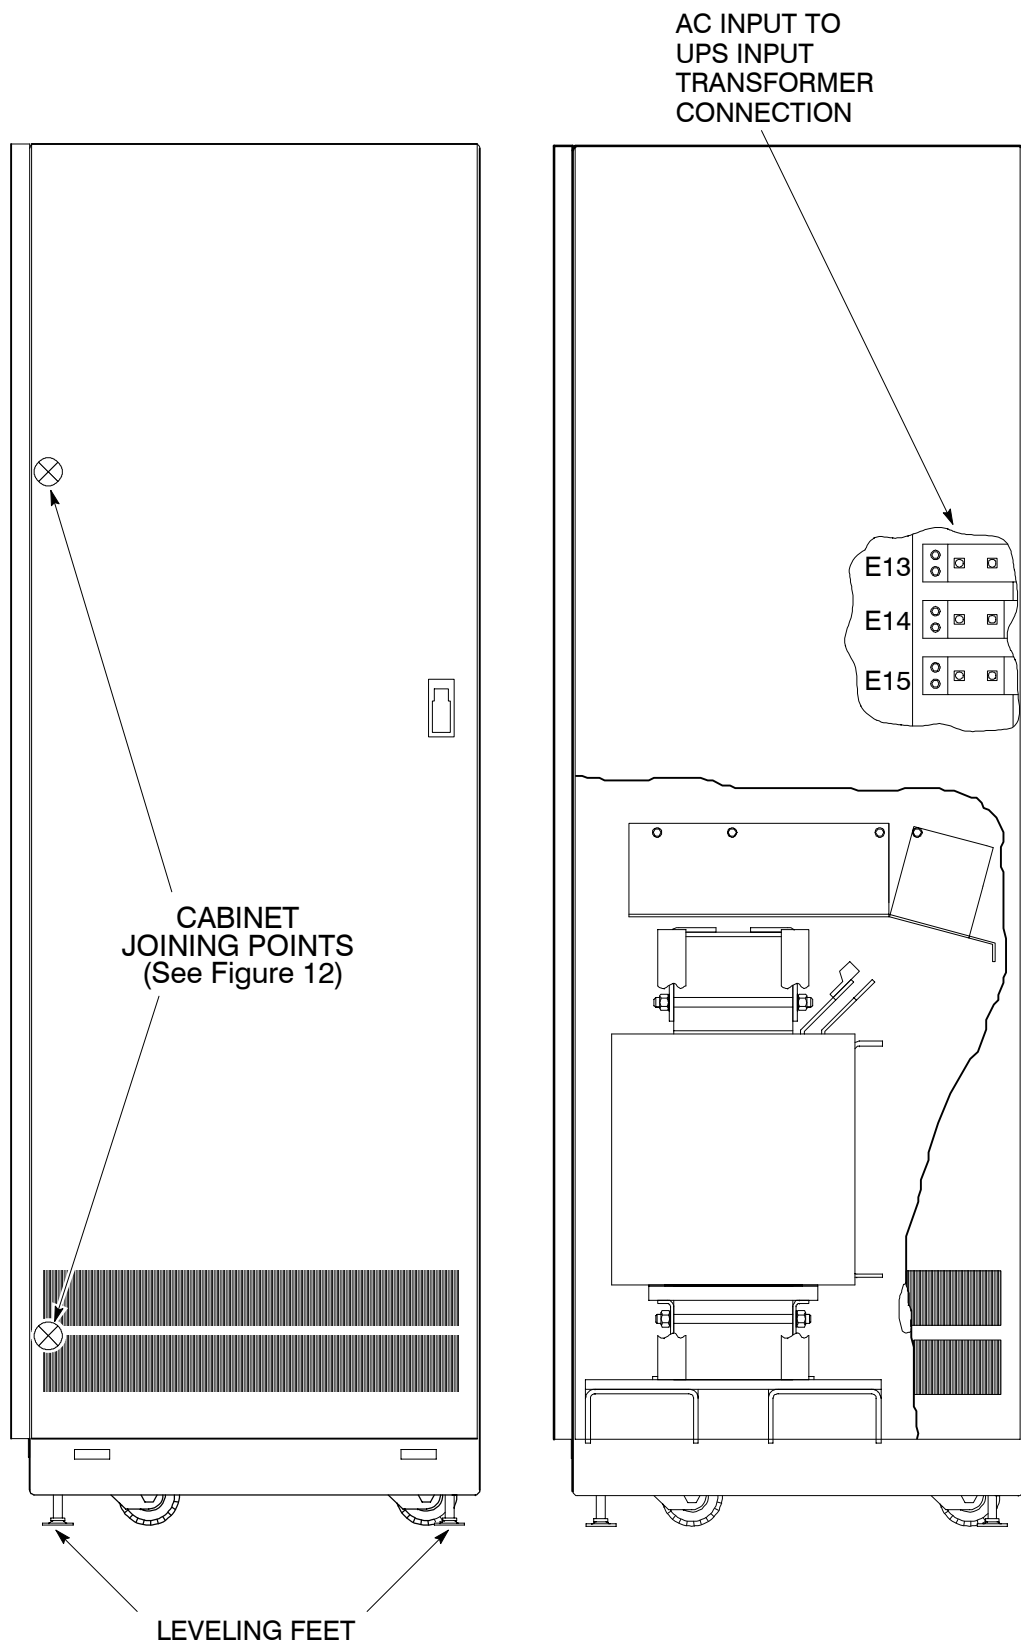

Figure 16. Installing an Input Transformer Cabinet
2. Connect the cables according to input voltage as shown in Table A. Also refer to Figure 16.